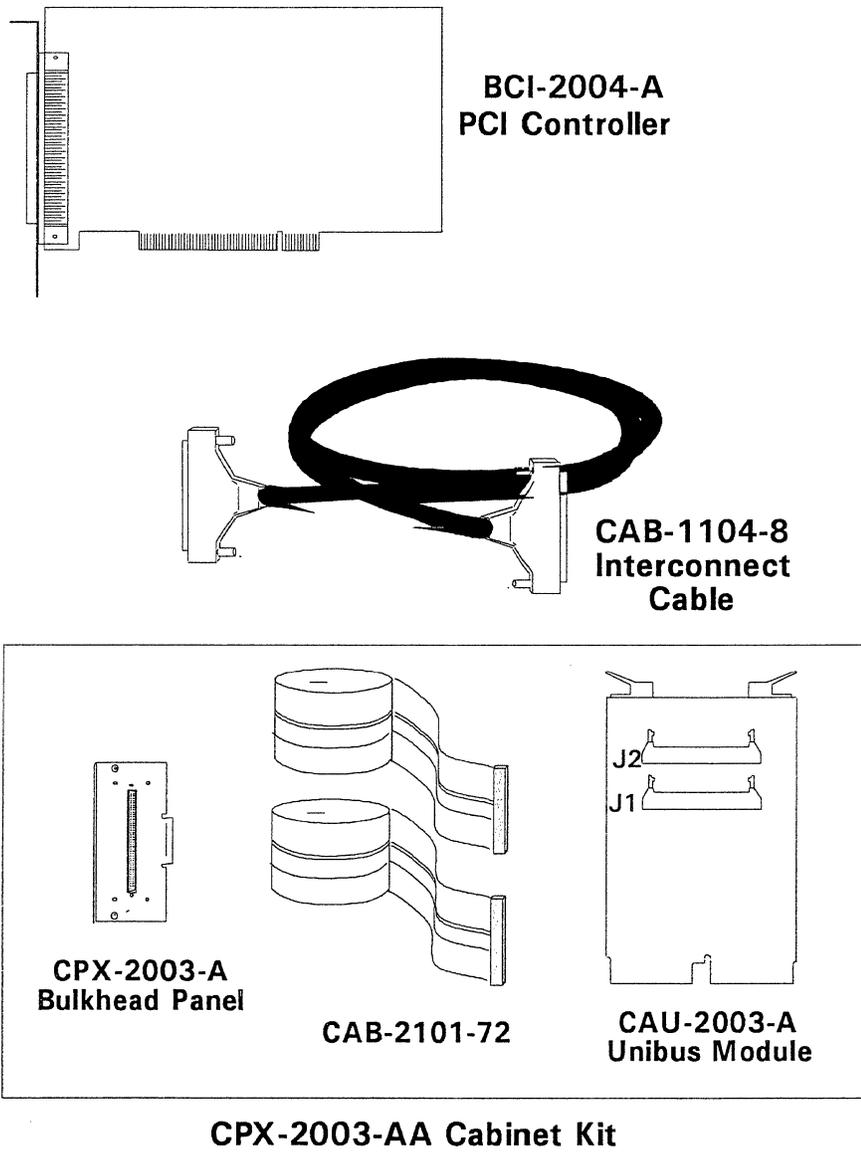

Figure 2-1: BCI-2004-AA Package
- The cabinet kit consists of a CAU-2003-A Unibus module, two 6-ft flat ribbon cables, and a CPX-2003-A bulkhead panel. The cabinet kit can be used when connecting to a Unibus chassis that utilizes bulkhead panels for FCC and emissions control. The CAU-2003 is a dual-width module and installs into a Unibus backplane slot 1, connectors A and B, replacing a Unibus cable or Unibus jumper module. The two 6-ft flat ribbon cables connect the CAU-2003-A module to the CPX-2003-A bulkhead panel. Figure 2-1 depicts the components of the BCI-2004-AA cabinet kit package.